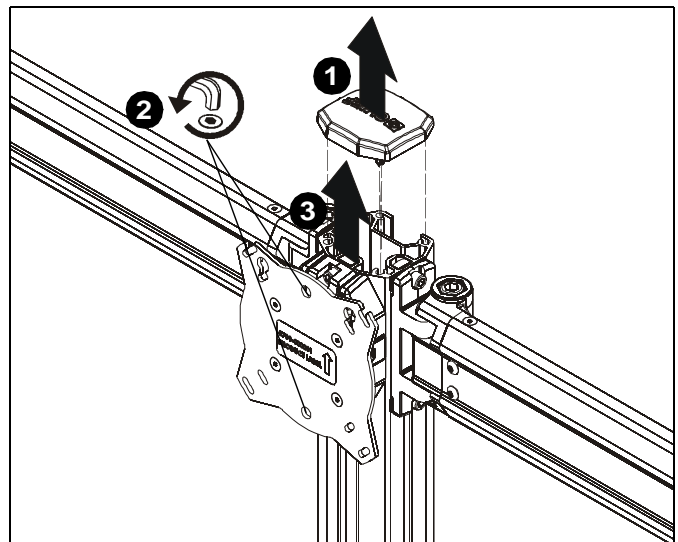

Figure 20
- Remove column cap (D) from array column. (See Figure 20)
- Loosen height adjustment screws for center faceplate assembly. (See Figure 20)
- Slide faceplate assembly up through column channel until it is removed from column. (See Figure 20)